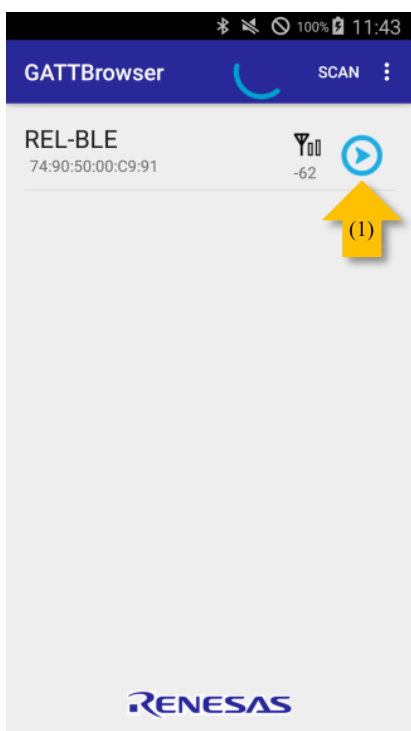

Figure 1
3. (Figure 1 - Arrow (1)) It can find the evaluation board on which the Simple Sample Program works. And, tap the connection icon to connect to the evaluation board.